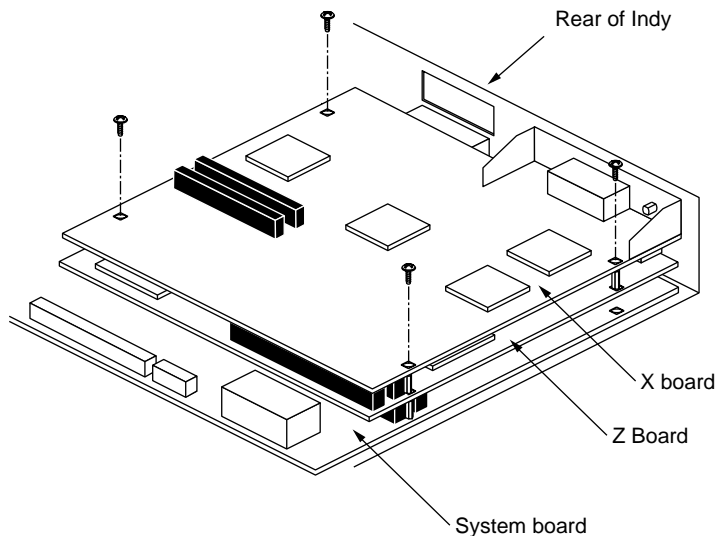

Figure 8-14 Removing the Screws From the X Board
5. The XZ graphics boardset consists of two boards, the X board and the Z board, which are installed on top of each other. Using a Phillips screwdriver, remove the screws securing the X board to the Z board, as shown in Figure 8-14.